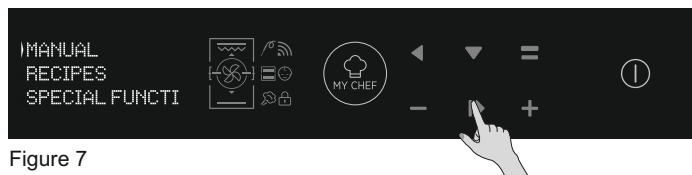

Figure 7
- Press the OK button when arrow on the display at MANUAL to set a cooking in 3 simple steps. (Figure 7)